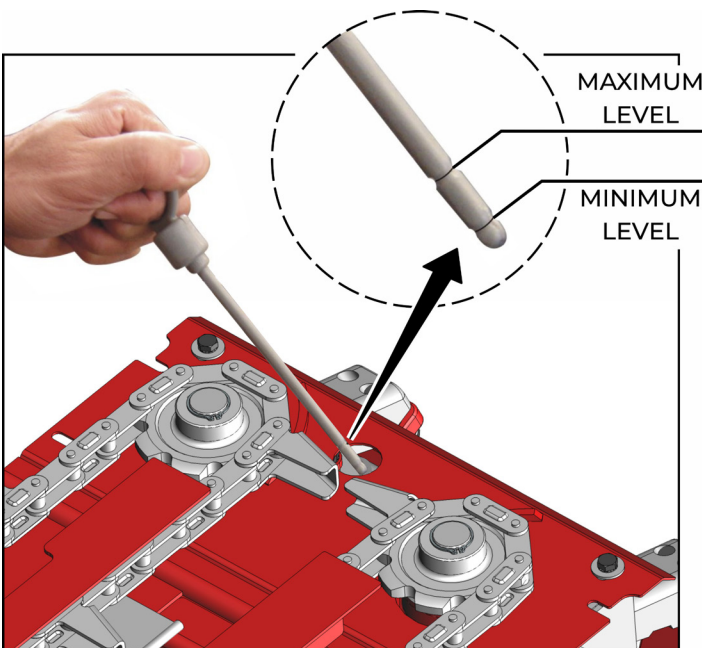

fig. 12
3. If necessary, replace enough oil to keep the level between the minimum and maximum indicated on the dipstick (fig. 12);